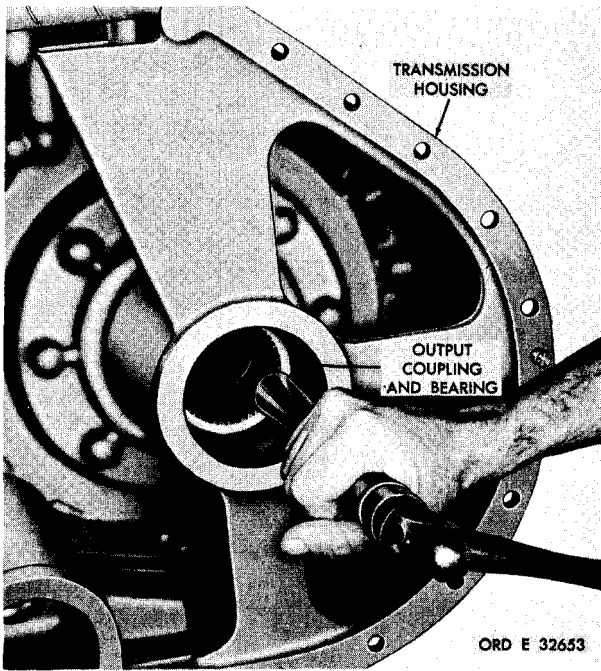

Figure 234. Removing transmission output coupling and bearing
j. Position the transmission housing to rest on its bottom. Using a hammer and soft drift, drive out the output coupling and ball bearing (fig. 234).